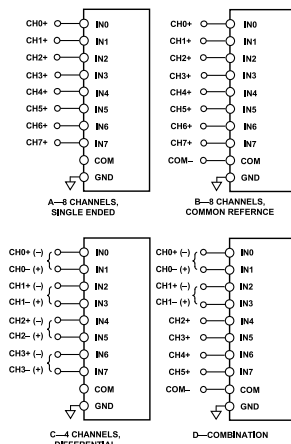

Figure 32. Multiplexed Analog Input Configurations
Figure 32 shows the different methods for configuring the analog inputs with the configuration register, CFG[12:10]. Refer to the Configuration Register, CFG section for more details.
- ▶ **Figure 32 (A)**, single-ended referenced to system ground,  $CFG[12:10] = 111_2$ . In this configuration, all inputs (IN[7:0]) have a range of GND to  $V_{REF}$ .
- ▶ **Figure 32 (B)**, bipolar differential with a common reference point,  $COM = V_{REF}/2$ ,  $CFG[12:10] = 010_2$ . Unipolar differential with COM connected to a ground sense;  $CFG[12:10] = 110_2$ . In this configuration, all inputs IN[7:0] have a range of GND to  $V_{REF}$ .
- ▶ **Figure 32 (C)**, bipolar differential pairs with the negative input channel referenced to  $V_{REF}/2$ ,  $CFG[12:10] = 00X_2$ . Unipolar differential pairs with the negative input channel referenced to a ground sense,  $CFG[12:10] = 10X_2$ . In these configurations, the positive input channels have the range of GND to  $V_{REF}$ . The negative input channels are a sense referred to  $V_{REF}/2$  for bipolar pairs, or GND for unipolar pairs. The positive channel is configured with CFG[9:7]. If CFG[9:7] is even, then IN0, IN2, IN4, and IN6 are used. If CFG[9:7] is odd, then IN1, IN3, IN5, and IN7 are used, as indicated by the channels with parentheses in Figure 32 (C). For example, for IN0/IN1 pairs with the positive channel on IN0,  $CFG[9:7] = 000_2$ . For IN4/IN5 pairs with the positive channel on IN5,  $CFG[9:7] = 101_2$ . Note that for the sequencer, detailed in the Channel Sequencer section, the positive channels are always IN0, IN2, IN4, and IN6.
- ▶ **Figure 32 (D)**, inputs configured in any of the preceding combinations (showing that the AD7682/AD7689 can be configured dynamically).